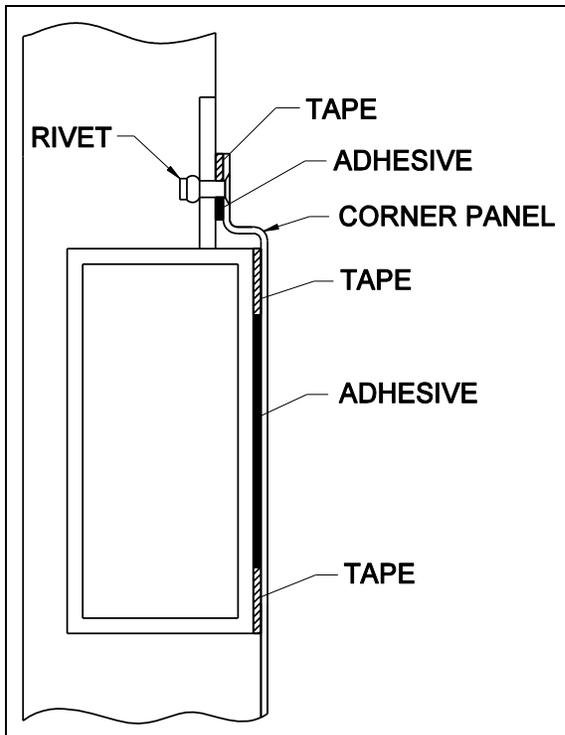
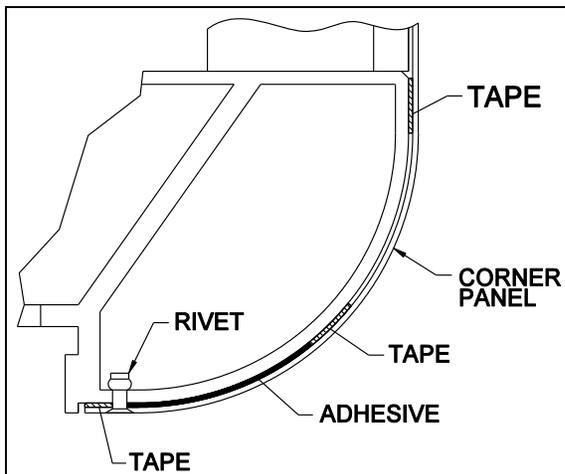

FIGURE 43 : CORNER PANEL INSTALLATION – UPPER PART
FIGURE 44 : CORNER PANEL INSTALLATION – LOWER PART
4. Remove panel upper rivets (figure 43) and lower rivets (figure 44) with a 1/8" drill bit, a hammer and a punch.
- Refer to figure 43 and figure 44 for adhesive, tape and rivet position.